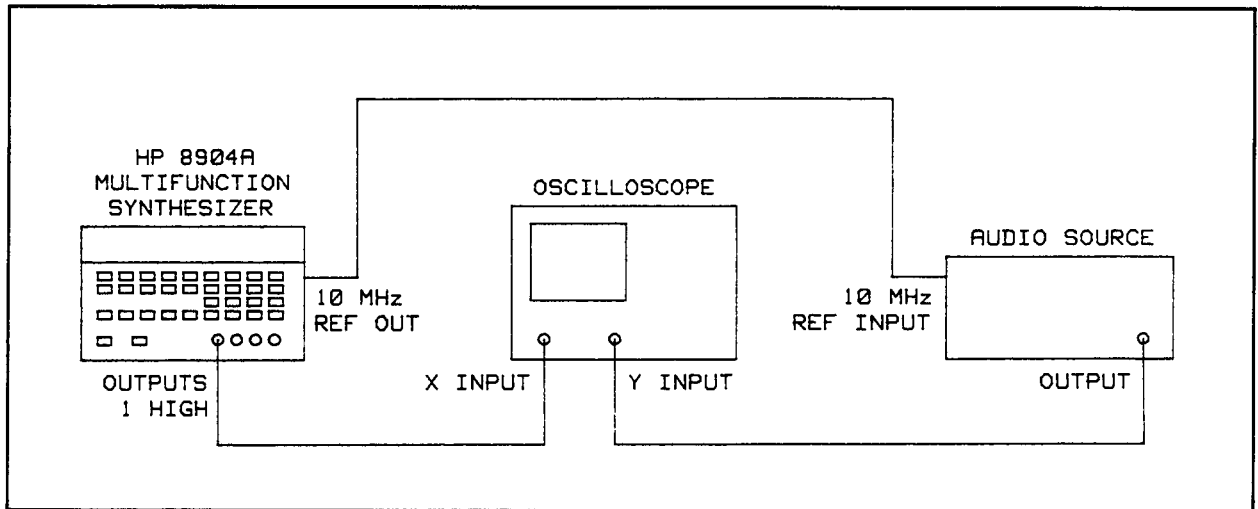

Figure 4-3. Phase Accuracy Performance Test Setup
1. Set up the equipment as follows. Refer to Figure 4-3.
6. Set up the equipment as in step 1 except connect the Multifunction Synthesizer OUTPUTS 2 HIGH output to the oscilloscope's dc coupled, X input. Refer to Figure 4-3.